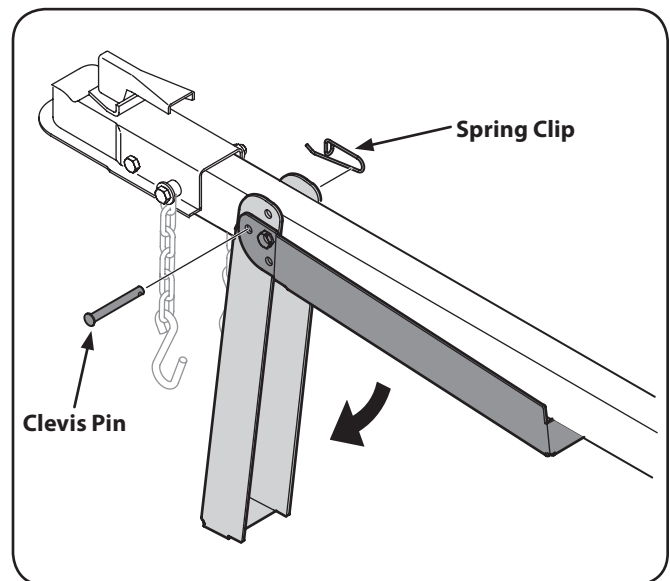

Figure 3-4
2. Secure the jack stand in position with the clevis pin and the spring clip. See Fig. 3-4.